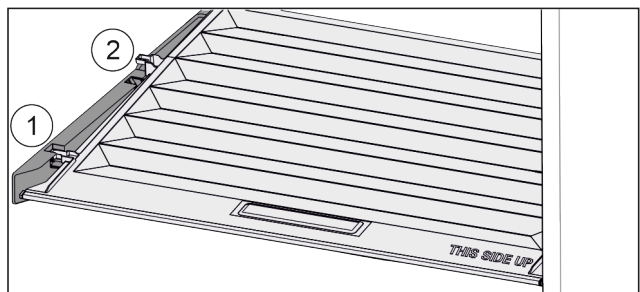

Fig. 113
- ▶ Pull the lid up at the front to the opening in the retaining parts Fig. 113 (1).
- ▶ Lift from the back and pull it up and out Fig. 113 (2).